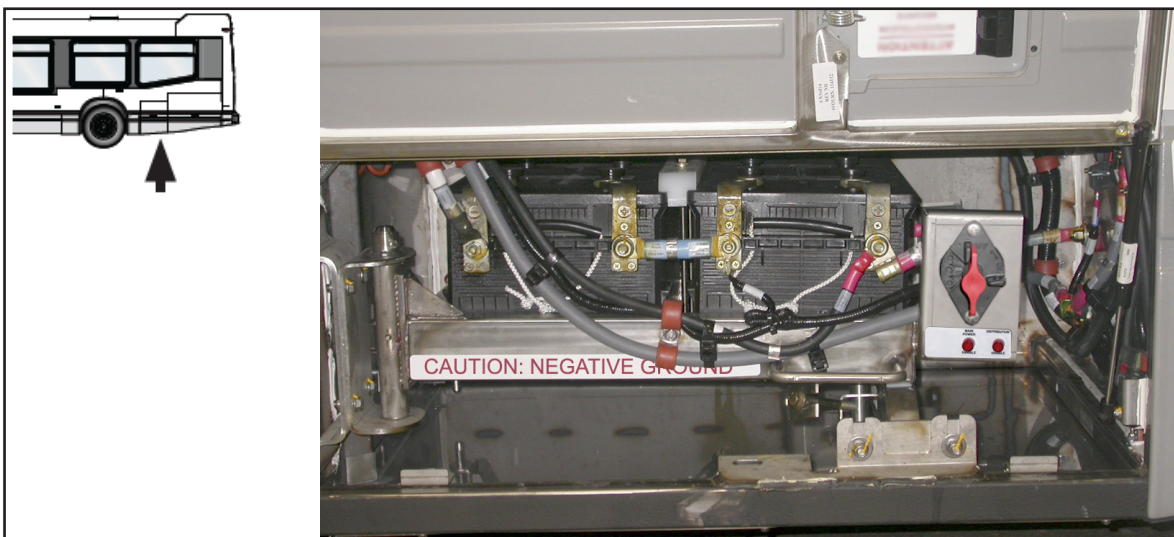

Figure 1 - Location of Battery Compartment
- 1.2. Locate and open the battery compartment door (see Figure 1).